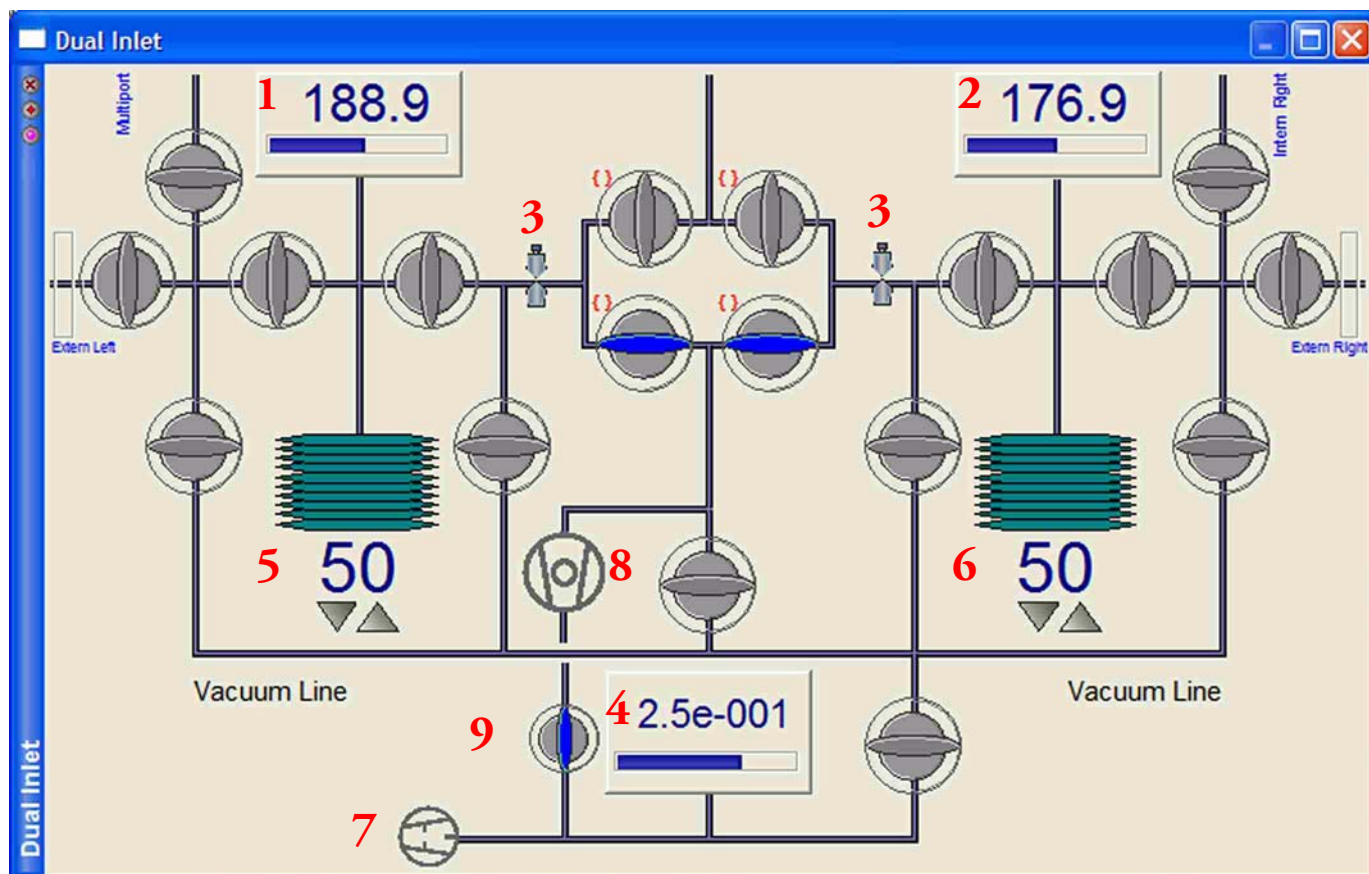

Figure 6-29. Dual Inlet System Window
*Refer to Figure 6-29 and Figure 4-2.